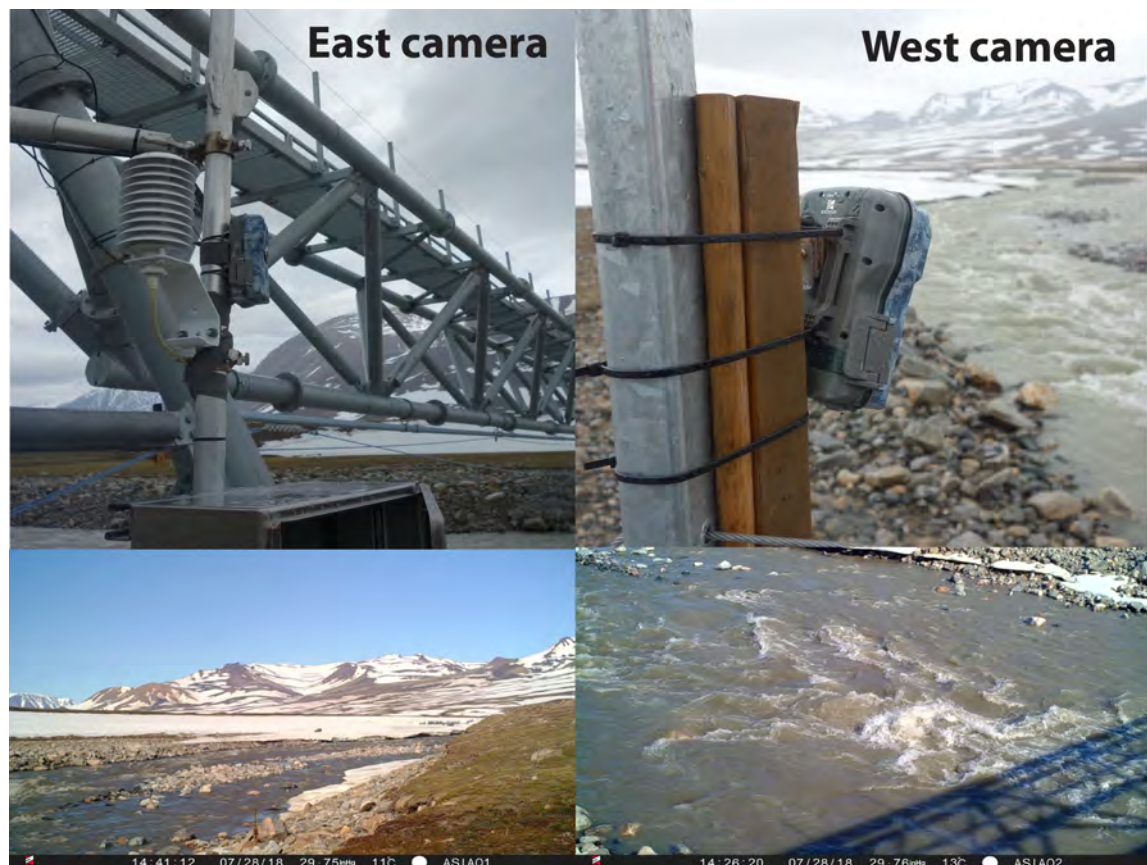

Figure 47: Camera mountings and frames for the time lapse cameras on the bridge.
3. Mount the cameras on the bridge as shown in Fig. 47.